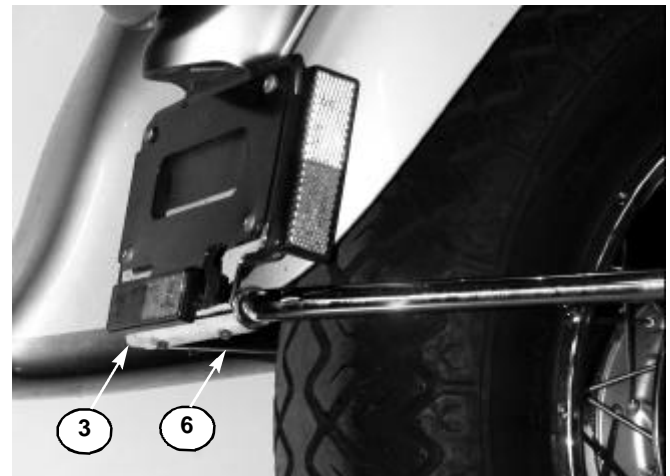

Figure 2.
1. Position the Rear Support between the rear reflector plate and the chrome bracket on the fender. Insert the screws from PREPARATION step 3 and start the nuts. Do not tighten. Figure 2.
9. Insert the Socket Set Screws into the Rear Support (Hex Key Wrench, 3mm) and tighten to 2.0ft lbs (2.75Nm). Figure 2.